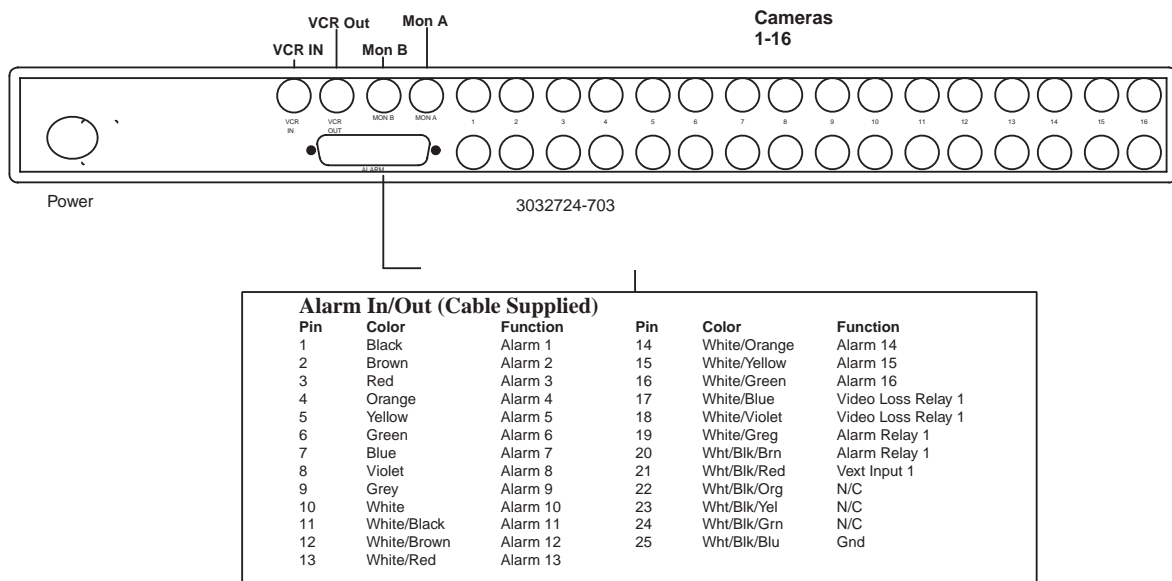

Figure 2A: 16-Channel Back Panels
1. Refer to Figures 2A and 2B for details on the input/output connections supplied by the multiplexer. (Be sure to reference the appropriate drawing for your multiplexer model.)